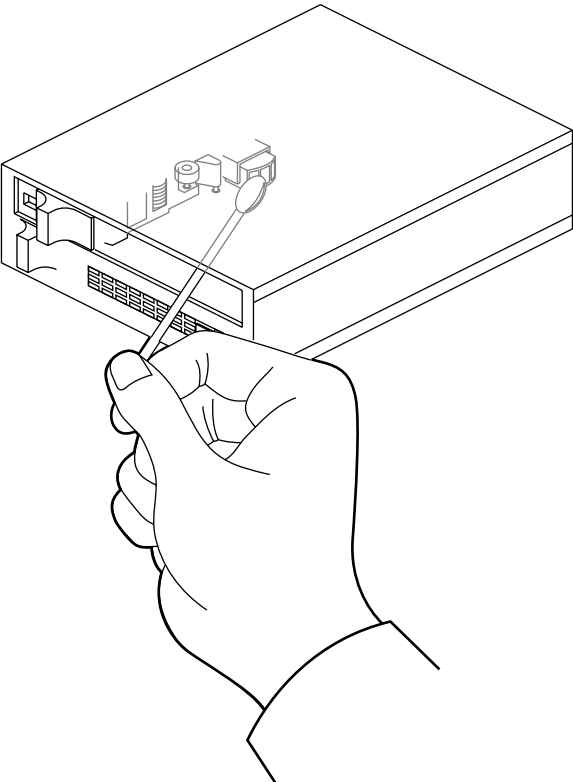

Figure B-4 Tape Head Cleaning
3. Dip a clean, non-fibrous cotton swab in tape head cleaning fluid and wipe the tape head (see Figure B-4).